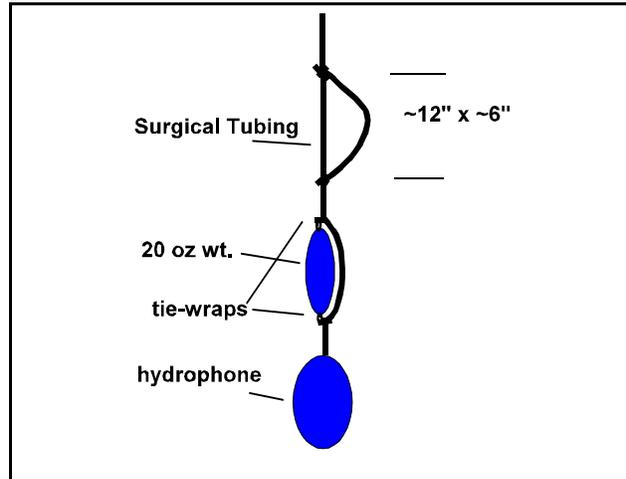

Figure 1. Hydrophone dynamic loading
- g) Connect the hydrophone to the buoys bottom connector and secure its connector sleeve. Unravel the remaining hydrophone cable and drop it over board. Note that the hydrophone should be dynamically loaded as per figure 1.